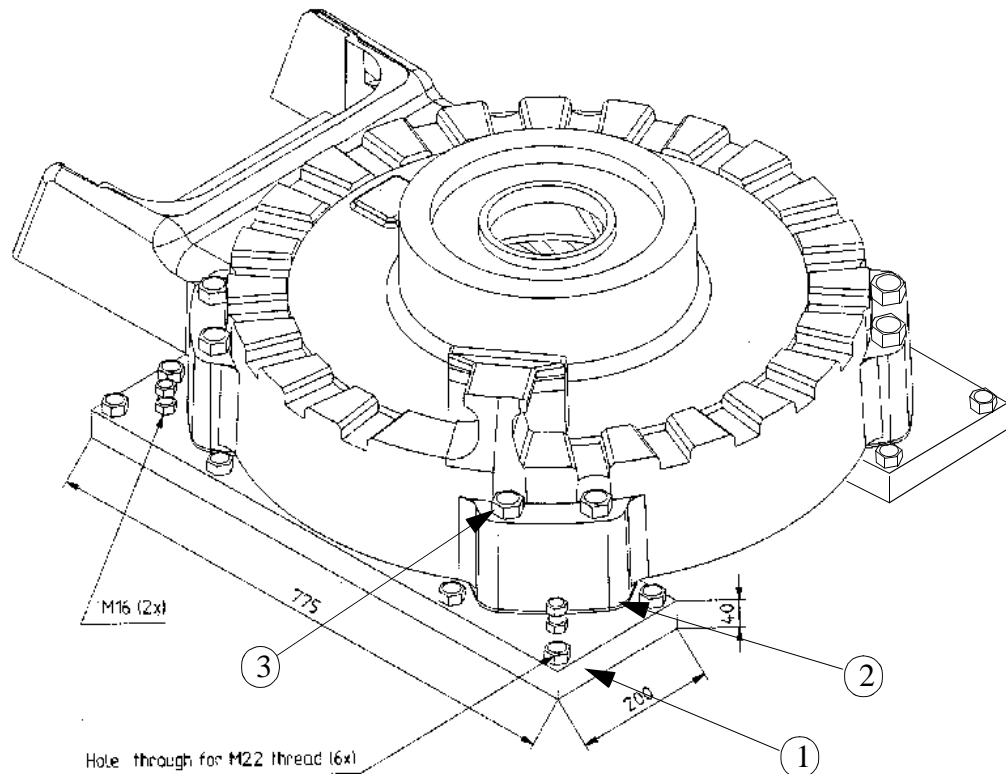

Figure 5 Base Plate.
It is recommended that the robot is mounted with M24x140, 8.8 Socket screws (3) on two base plates (1) with four locator bushings (2), that allows the same manipulator to be re-mounted without program adjustment (see Figure 5).
To orient the robot when attaching it to the floor, three guide pins can be fitted in the appropriate holes,  $\text{Ø } 8,5$  mm (see Figure 5).